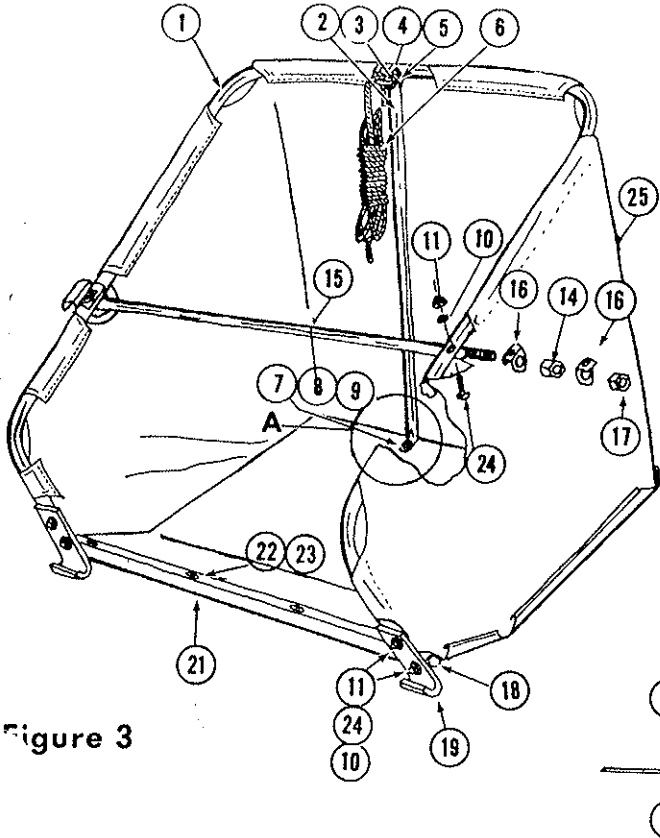

Figure 3
4. Fig. 2 point A. Remove Ref. No. 8 nut, Ref. No. 12 washer, Ref. No. 2 bolt, from both Ref. Nos. 6 and 30 frame. Place basket assembly Fig. 3 in position as shown on front page and Fig. 4. Replace Ref. No. 24 bolt, Ref. No. 10 washer, Ref. No. 11 nut, and tighten. (Both sides Ref. Nos. 6 and 30 frame Fig. 2)
5. Remove Ref. No. 5 eye bolt, Ref. No. 4 nut, Ref. No. 7 bolt, Ref. No. 9 washer, and Ref. No. 8 nut from bag. Ref. Fig. 3 assembly. Ref. No. 2 tube basket support to Ref. No. 1 frame upper basket and basket bottom by placing Ref. No. 5 eye bolt through Ref. No. 2 tube basket support and Ref. No. 1 frame upper basket, Ref. No. 4 nut and tighten. Ref. Sect. A. Align hole in end of Ref. No. 2 tube basket support with hole in basket bottom and replace Ref. No. 7 bolt, Ref. No. 8 nut, and tighten. Tie one end of rope in Ref. No. 5 eye bolt.